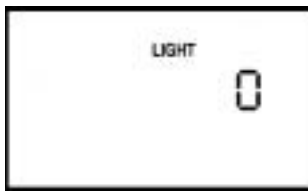

Figure 6-11 LED Backlight Setting Screen
1. From the Monitoring screen, press the **Right User** button until the LED Backlight Setting screen appears, as shown in Figure 6-11.